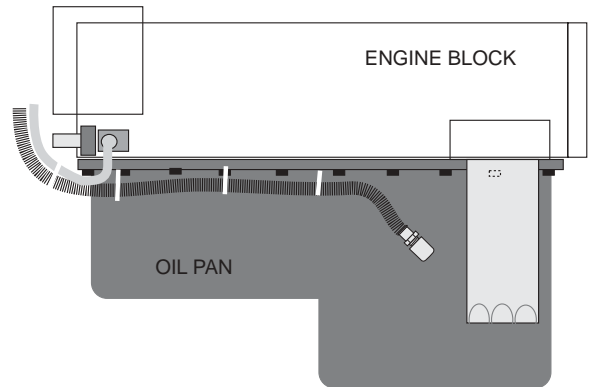

Fig. 4-a
- A. The supercharger uses engine oil for lubrication and must have an oil feed line connected to a filtered oil access on the engine and an oil return or drain. (See Fig. 4-a.) Connection to the oil pan must be above the oil level.